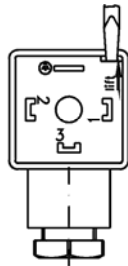

Fig. 8
- ⇒ Use a screwdriver or similar tool to press out the core (pos. 8) of the junction box (Fig. 8).